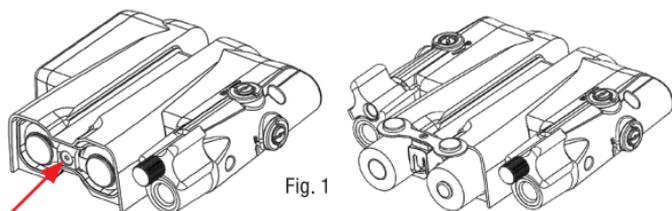

Fig. 1
**Step 2** - Hold LBC upright with battery contacts on top. To release the battery contacts, gently press down on the center of the contacts to disengage the locking mechanism (see figure 1). As pressure is released, the contacts will extend outward. Once extended, the contacts will pivot 90° upward making way for battery insertion.